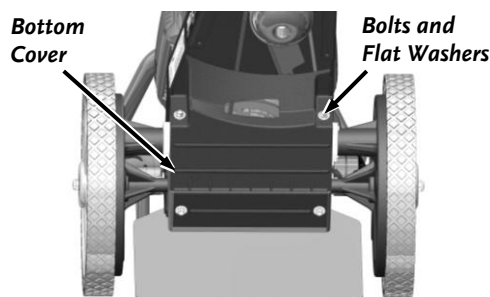

Figure 16
4. **Self Propelled Model Only:** Remove the four Bottom Cover Bolts and Flat Washers with a 3/8" Wrench. Remove the Bottom Cover (**Figure 16**).
9. **Self Propelled Model Only:** Position the Bottom Cover and secure with the four Bolts and Flat Washers using a 3/8" Wrench (**Figure 16**).